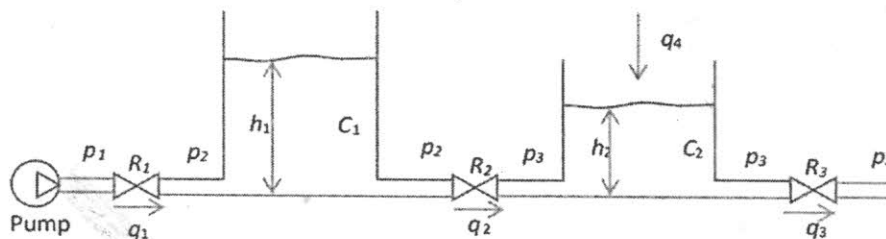

figure 2(b)
b) Derive the mathematical model for the liquid system as shown in the **figure 2(b)** considering the pressure 'p₁' and flow rate 'q₄' as the inputs and output as the flow rate 'q₃'.